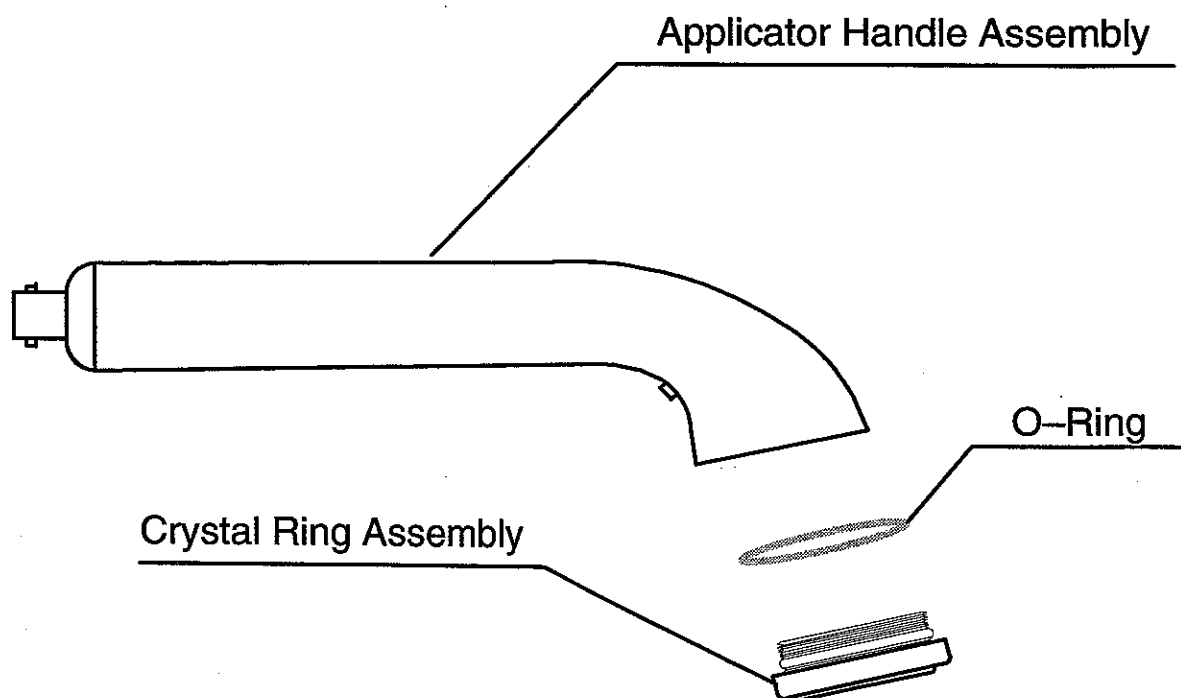

Figure B.1—Applicator Top Assembly
1. Figure B.1 shows the ME 7305 applicator top assembly. It is representative of all the Sonicator 730 applicators.